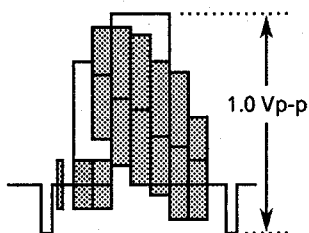

Figure 5-4.
3. Make sure that the E-E signal amplitude is 1.0 Vp-p as shown in Figure 5-4.